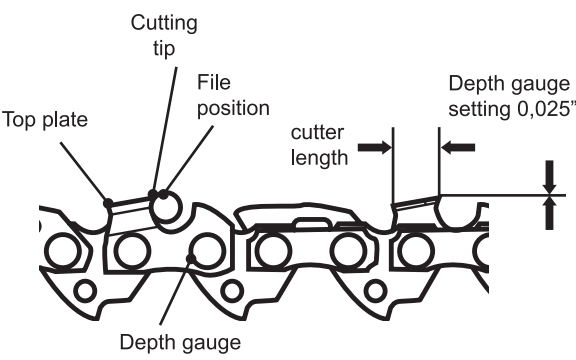

Fig. 43
- 9. Use a depth gauge measuring instrument to check the height of the depth gauge. Depth gauge measuring jigs are available from most reputable tool merchants (Fig. 43).